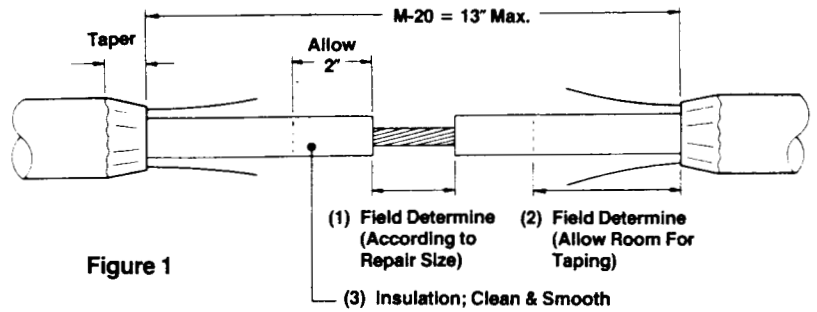

Figure 1
2. Remove entire cable jacket from repair area, for a length not exceeding that shown in Figure 1.
#### 1. 600/2000 Volt Portable Cable (Non-Shielded) (Figures 1 & 2):